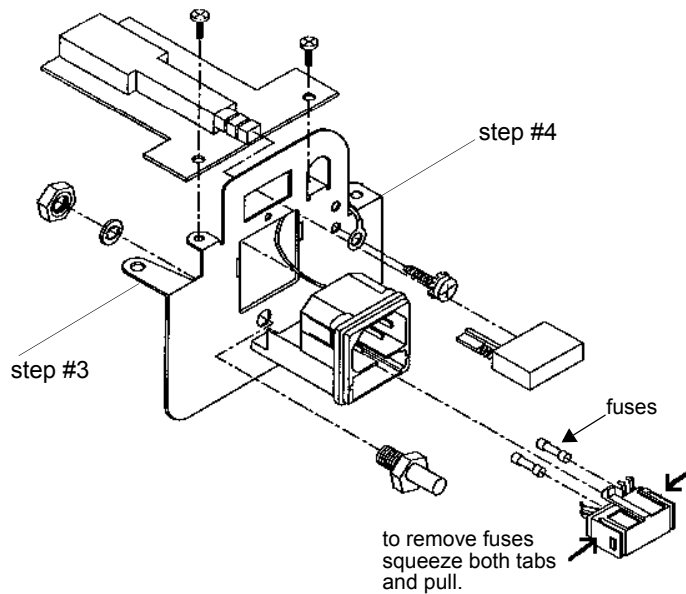

Figure 4-10: AC module
4. Remove the single screw from the AC module (refer to *Figure 4-10* below).